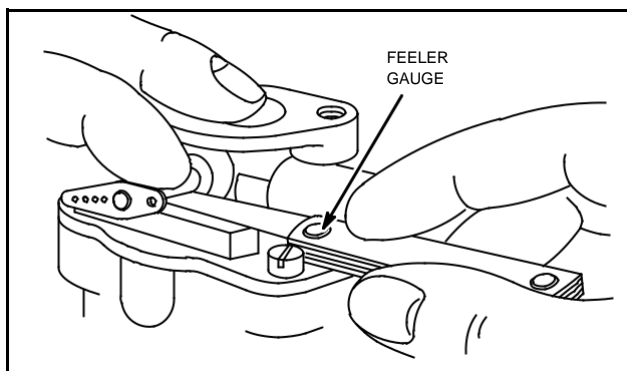

Fig. 271 - CHECKING THROTTLE WEAR
1. Check wear by placing a short iron bar on upper carburetor body as shown in Fig. 271.